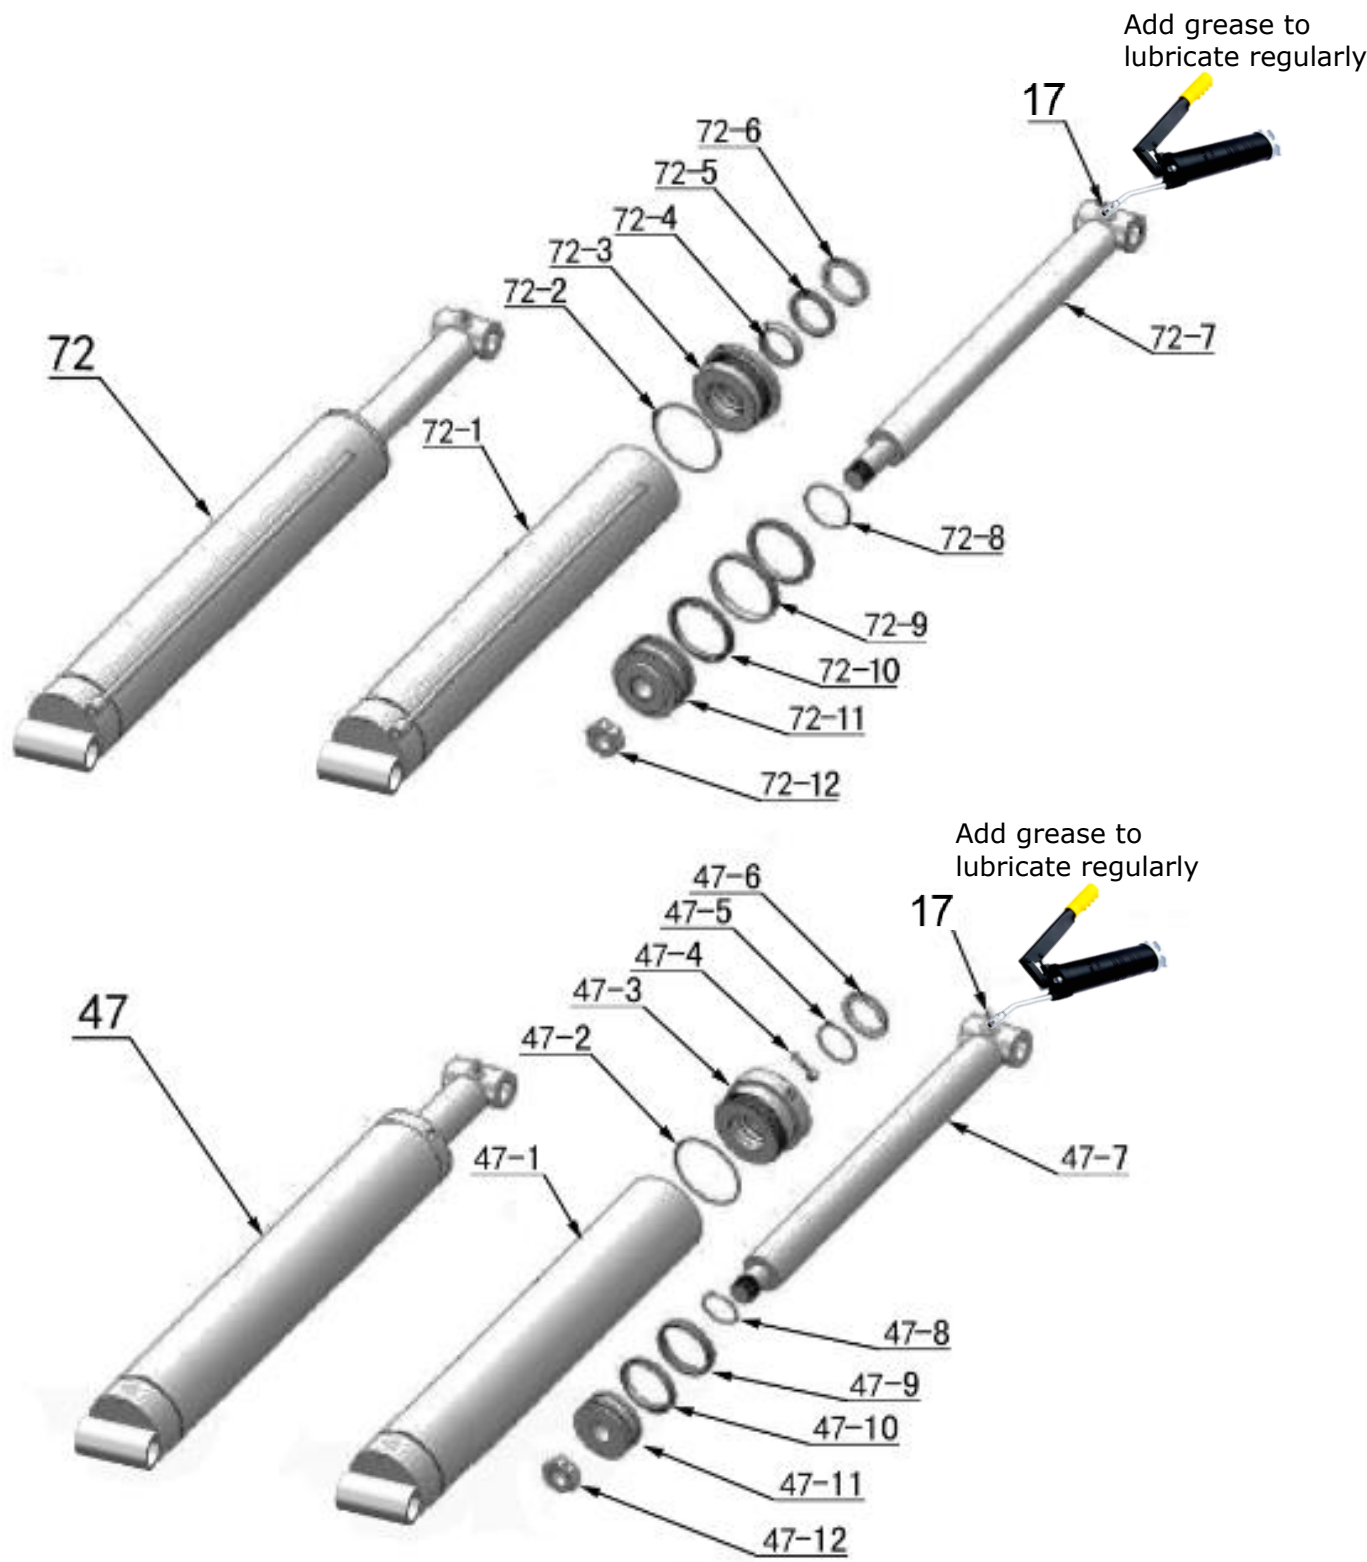

Fig. 39
- a) Turn the Two-way valve to oil filling position (See Fig. 39), push button Up and fill oil to the secondly cylinder until it full, and then hold down the button Lock for a while for bleeding air. Repeat this step until no air in the hydraulic system (normally repeat two time the air will be bleed off).